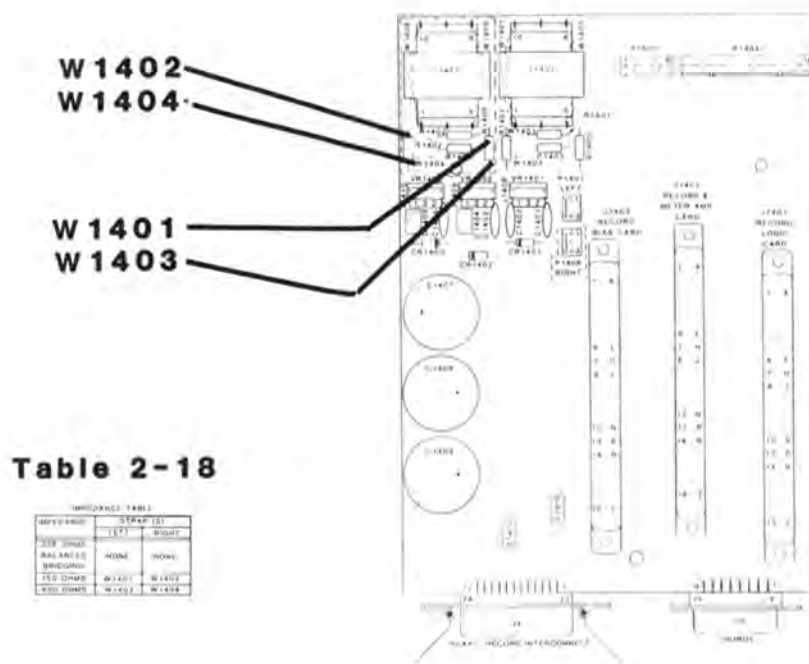

Fig. 2-17
1. RECORDER INPUT IMPEDANCE: DELTA IV recorders are shipped from the factory with 20K OHMS balanced bridging input standard. The input may be terminated with either 150 or 600 OHMS by making jumper changes on the Record Mother PCB. Refer to Figure 2-17 and Table 2-18 for exact location and jumper change instructions.